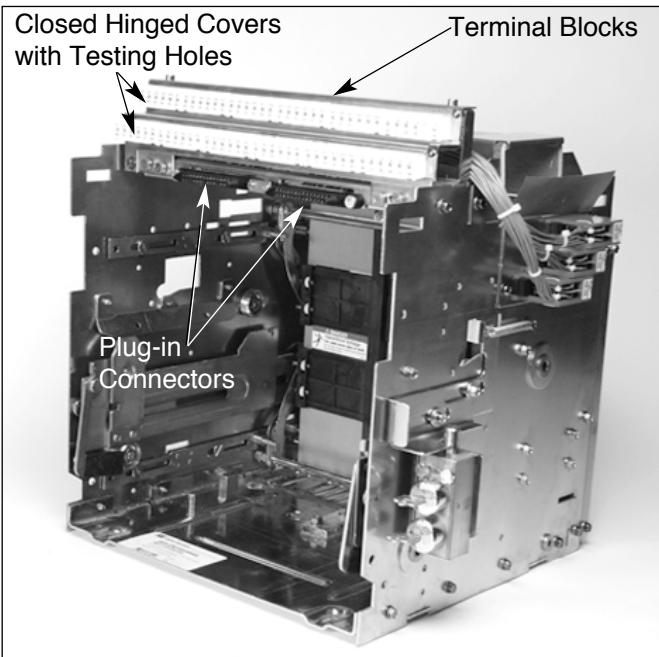

Figure 3-24 Typical Cassette Mounted Secondary Wiring
**Drawout type circuit breakers:** Compatible secondary plug-in connectors are mounted on the top front portion of the drawout cassette (Figure 3-24). These connectors match and plug into the circuit breaker mounted connectors. Contact points are wired from the cassette's plug-in connectors to cassette mounted terminal blocks. The terminal blocks are also mounted on the top front portion of the cassette. The secondary terminals have finger-proof hinged covers with small holes for probe testing.
- (1) Without Terminal Block
- (2) With Terminal Block